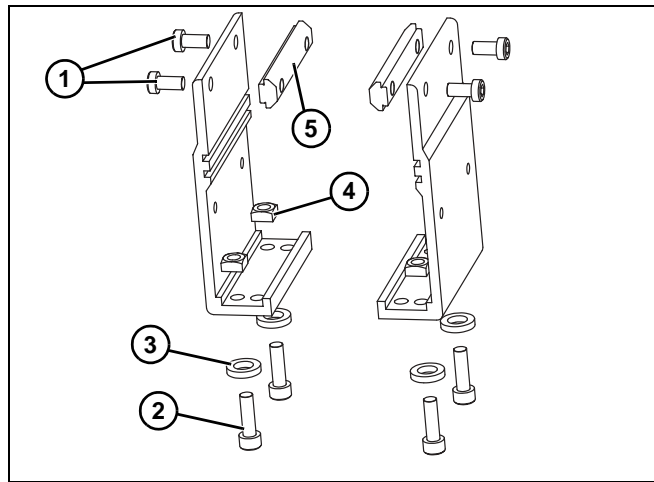
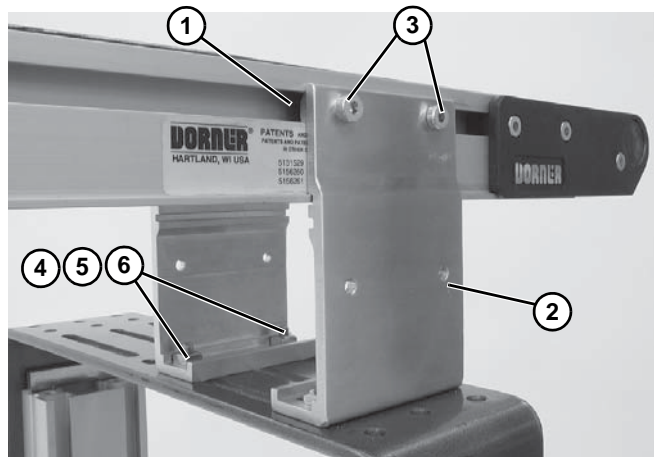

Figure 5
Figure 6
1. Locate brackets. Exploded view shown in Figure 5.
2. Remove screws (**Figure 5, item 1 & 2**), washers (**Figure 5, item 3**), nuts (**Figure 5, item 4**) and T-bars (**Figure 5, item 5**) from brackets.
3. Insert T-bars (**Figure 5, item 5**) into conveyor side slots (**Figure 6, item 1**). Fasten brackets (**Figure 6, item 2**) to conveyor with mounting screws (**Figure 6, item 3**).
4. Fasten brackets to support stand with mounting screws (**Figure 6, item 4**), washers (**Figure 6, item 5**) and nuts (**Figure 6, item 6**).
5. Tighten screws (**Figure 6, item 3 & 4**) to 60 in-lb (7 Nm).